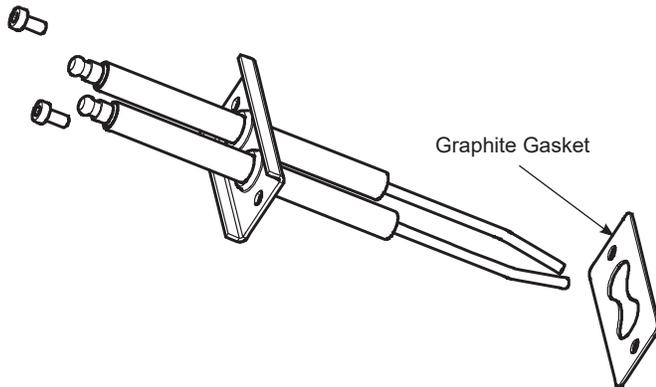

Figure 29: Igniter Electrode Assembly
- d. Install igniter as shown in Figure 29.